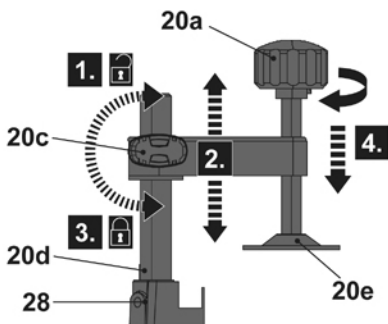

Fig. 8
- > Loosen the locking knob (20c) (Fig. 8, step 1) on the height adjustment pillar (20d) and adjust the bracket (20b) to the required height (step 2). Tighten the locking knob to secure the bracket (step 3).